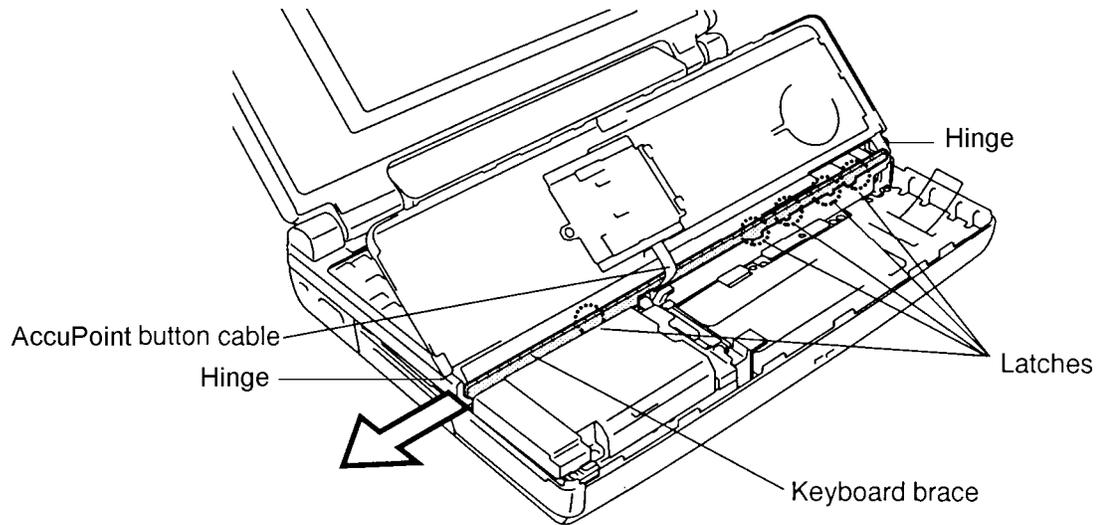

Figure 4-10 Removing the keyboard base
To remove the T2150 series keyboard, follow the steps below and refer to figures 4-10 and 4-11.
To install the T2150 series keyboard, follow the steps below and refer to figures 4-10 and 4-11.
3. Insert the **keyboard brace** between the **AccuPoint cable** and the underside of the keyboard (figure 4-10).
4. Secure the **five latches** on the keyboard base (figure 4-10).
5. Disconnect the **AccuPoint cable** from **PJ13** on the system board. Press in on the hinge at either side to remove the palm rest (figure 4-10).